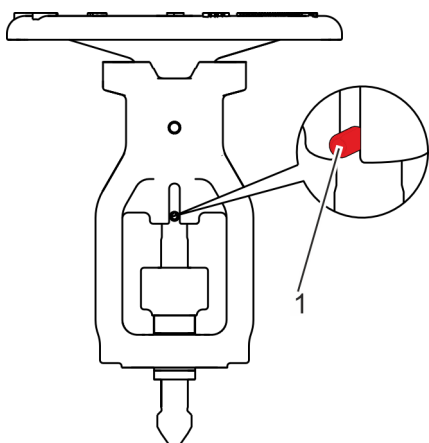

Fig. 25: Taking off the bonnet
- 14.** Drive the anti-twist device (Fig. 25/1) out of the stem with the knock-out tool.